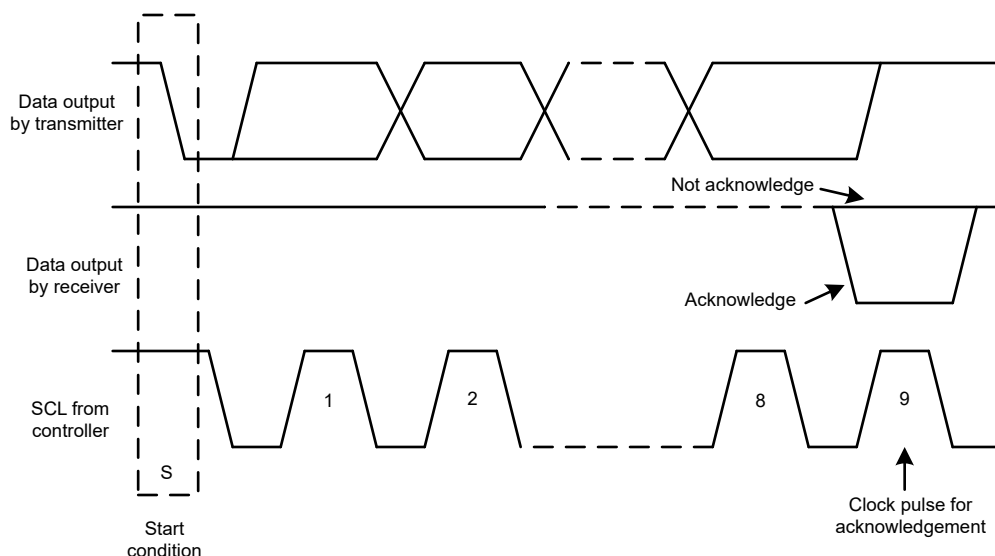
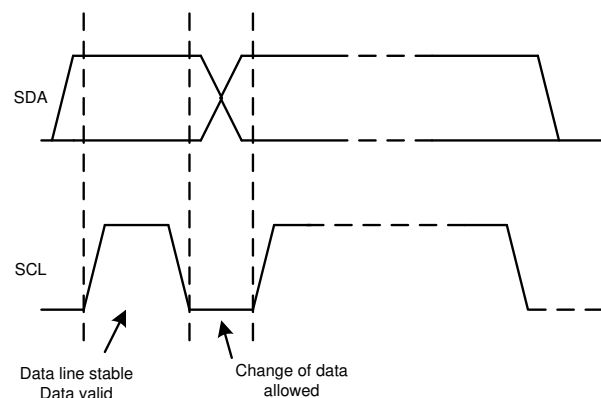

Figure 6-20. Acknowledge and Not Acknowledge on the I²C Bus
Figure 6-22. Bit Transfer on the I²C Bus
Other than specific timing signals, the I²C interface works with serial bytes. At the end of each byte, a ninth clock cycle generates and detects an acknowledge signal. An acknowledge is when the SDA line is pulled low during the high period of the ninth clock cycle. A not-acknowledge is when the SDA line is left high during the high period of the ninth clock cycle, as shown in Figure 6-20.
2. The controller then generates the SCL pulses, and transmits the 7-bit address and the read/write direction bit (R/\bar{W}) on the SDA line. During all transmissions, the controller makes sure that data are valid. A valid data condition requires the SDA line to be stable during the entire high period of the clock pulse, as shown in Figure 6-22. All devices recognize the address sent by the controller and compare the address to the respective internal fixed address. Only the target device with a matching address generates an acknowledge by pulling the SDA line low during the entire high period of the 9th SCL cycle, as shown in Figure 6-20. When the controller detects this acknowledge, the communication link with a target has been established.